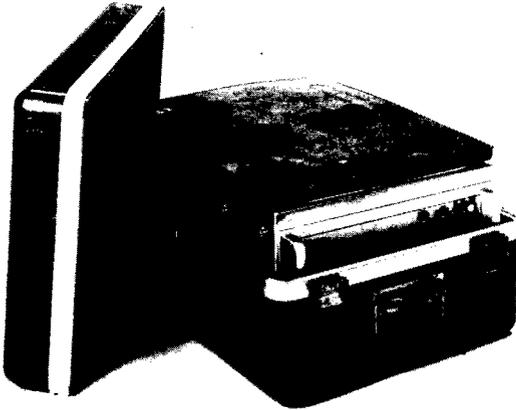

FIGURE 4
- Unlatch the case, and remove the lid and protective foam pad (Figure 4).